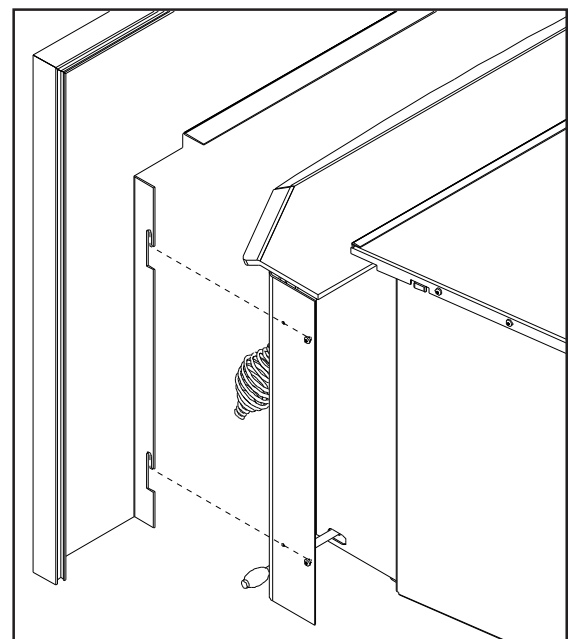

Figure 63: Installation of Panel.
There are two (2) hooks on either side of the inside of the panel. Line up the openings on the hooks with the screws on the outside of either shroud (see Figure 63). Push the surround in and push it down into place.